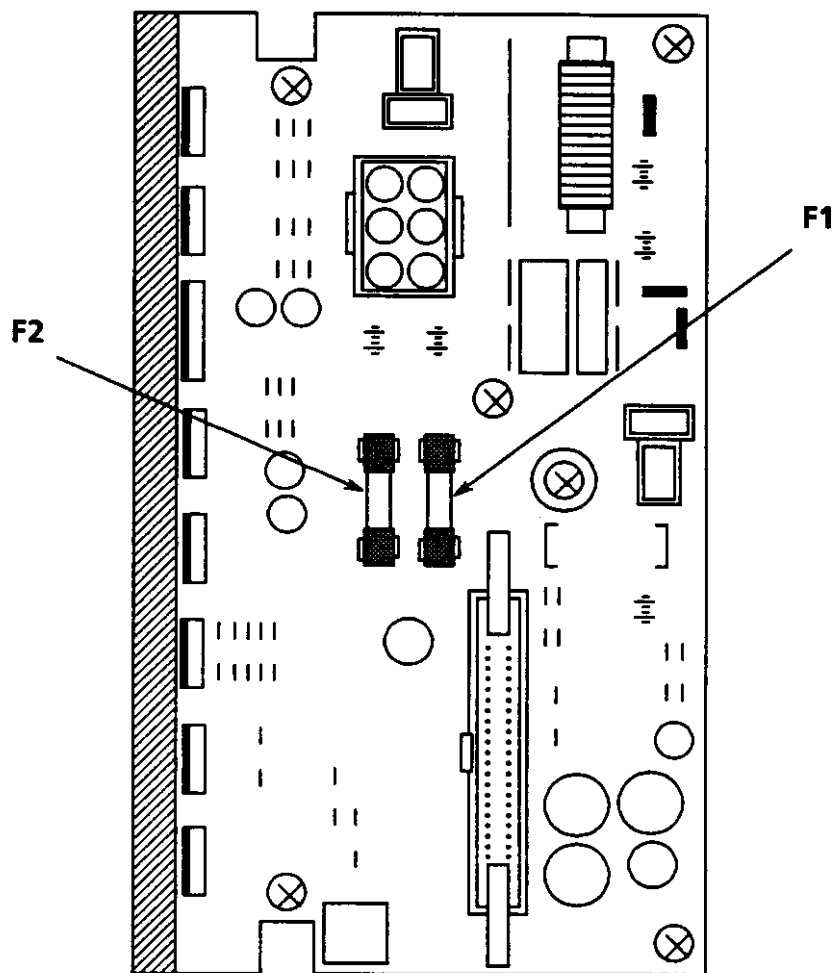

Fig. 4.3 Replacement of Fuses on Regulator
4. Ease fuses F1 and F2 carefully out of their holders by means of screw driver and replace (see Fig. 4.3).